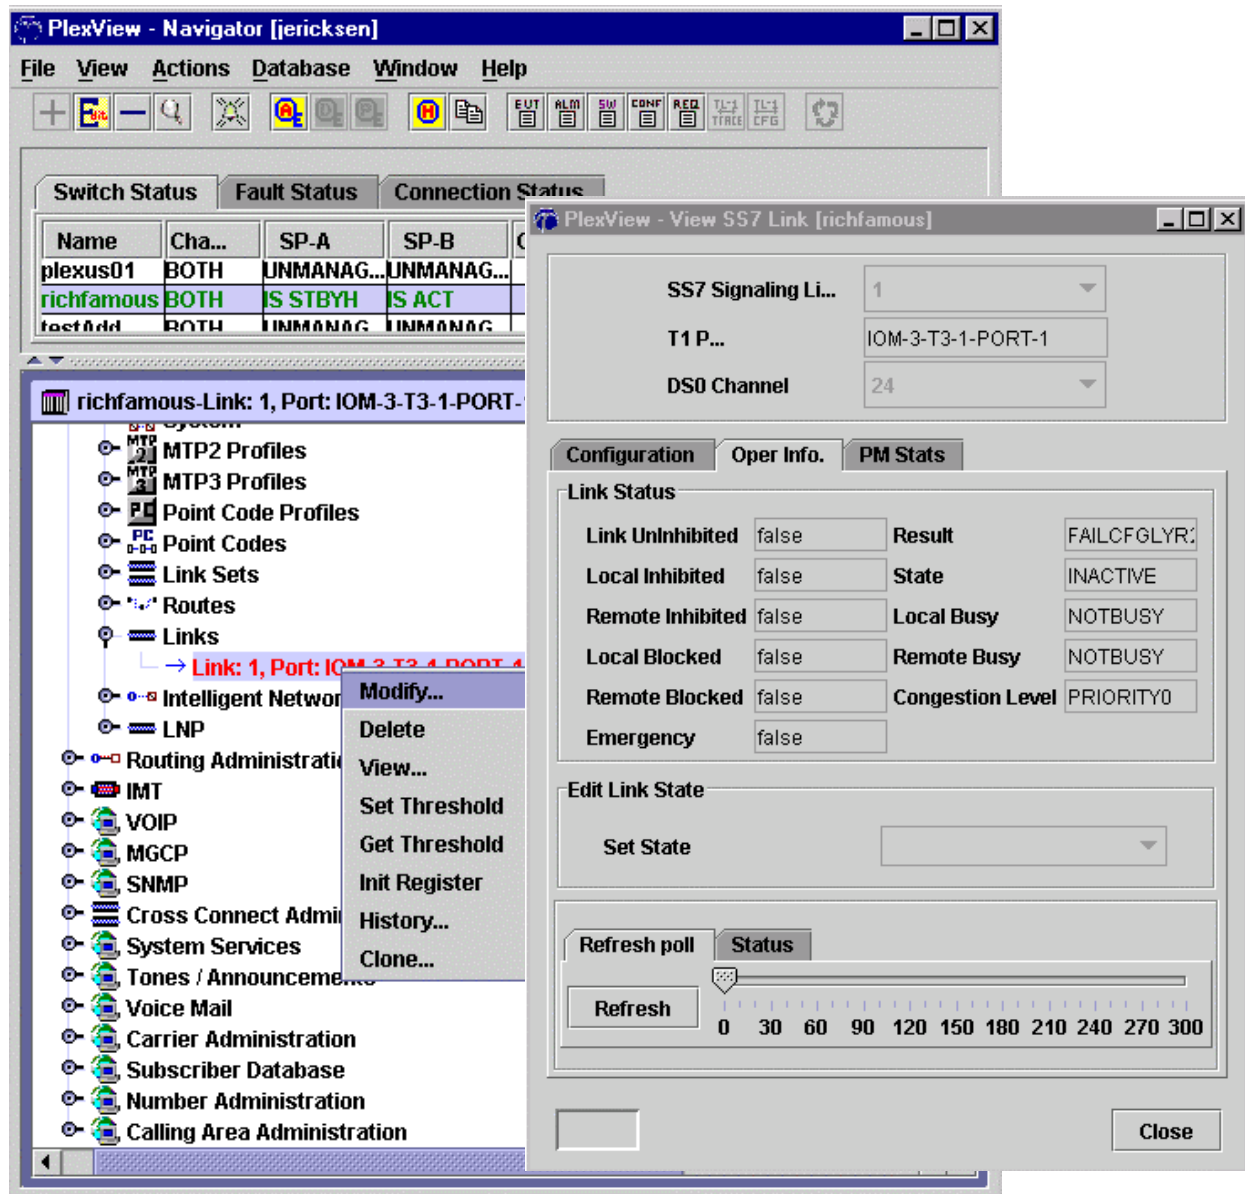

Figure 5. Status of Link
23. Retrieve status of signaling link. Double-click *SS7* and then *Link Sets*. Right-click a link set and select *View, PM Stats* and then click *Refresh* near the bottom of the panel for the latest information. See Figure 5.